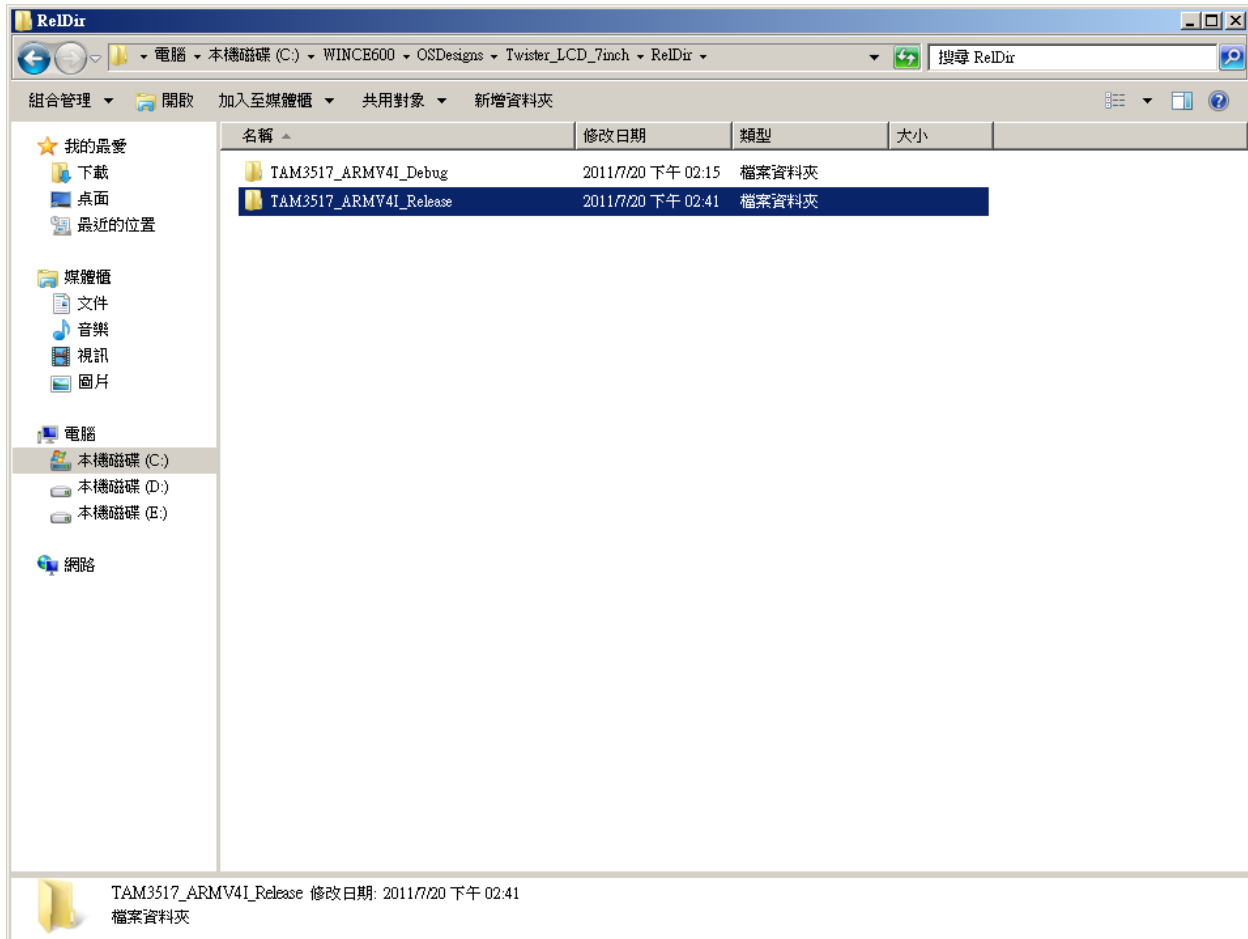

Figure 107
- Go to C:\WINCE600\OSDesigns\Twister\_LCD\_7inch” and open the folder “TAM\_3517\_ARMV4I\_release” (See Figure 107). The folder contains files named: MLO, EBOOTSD.nb0, NK.bin